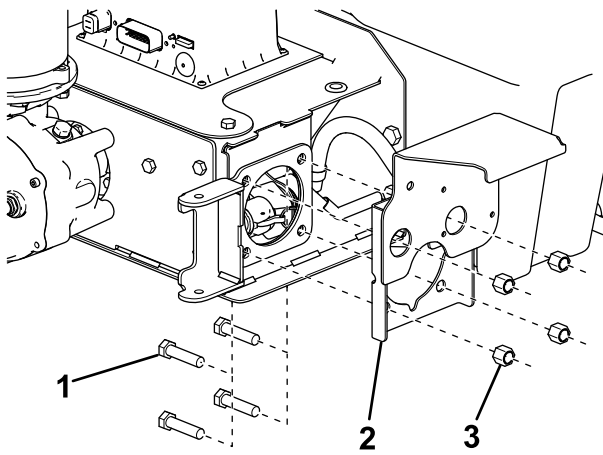

Figure 16
6. Secure the pump bracket to the auger assembly using the previously removed 4 bolts and nuts (Figure 16), then continue to step 9.
8. Secure the pump bracket to the pintle chain assembly using 4 bolts (1/2 inch) and nuts (Figure 16).